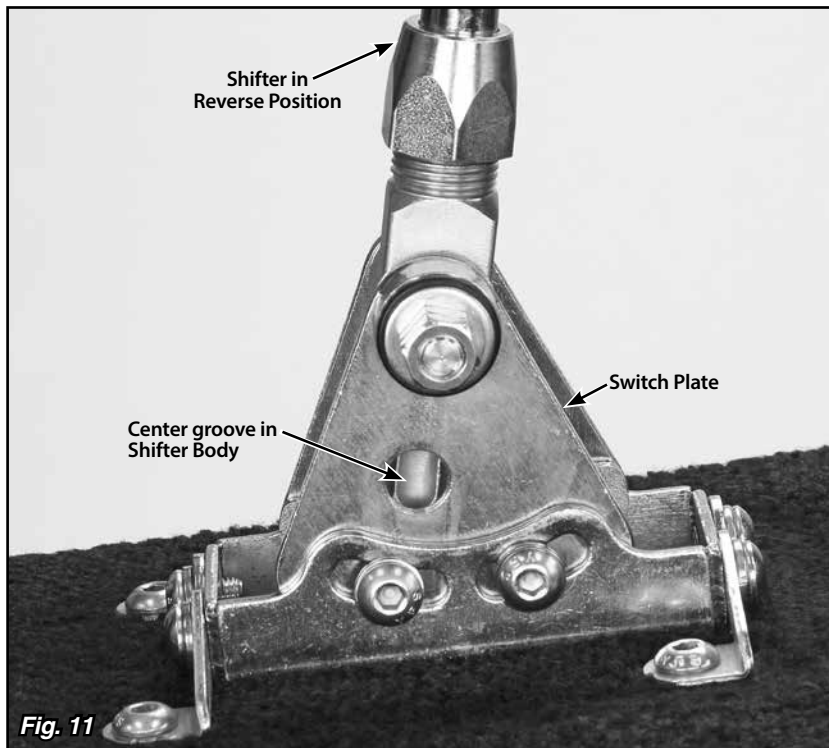
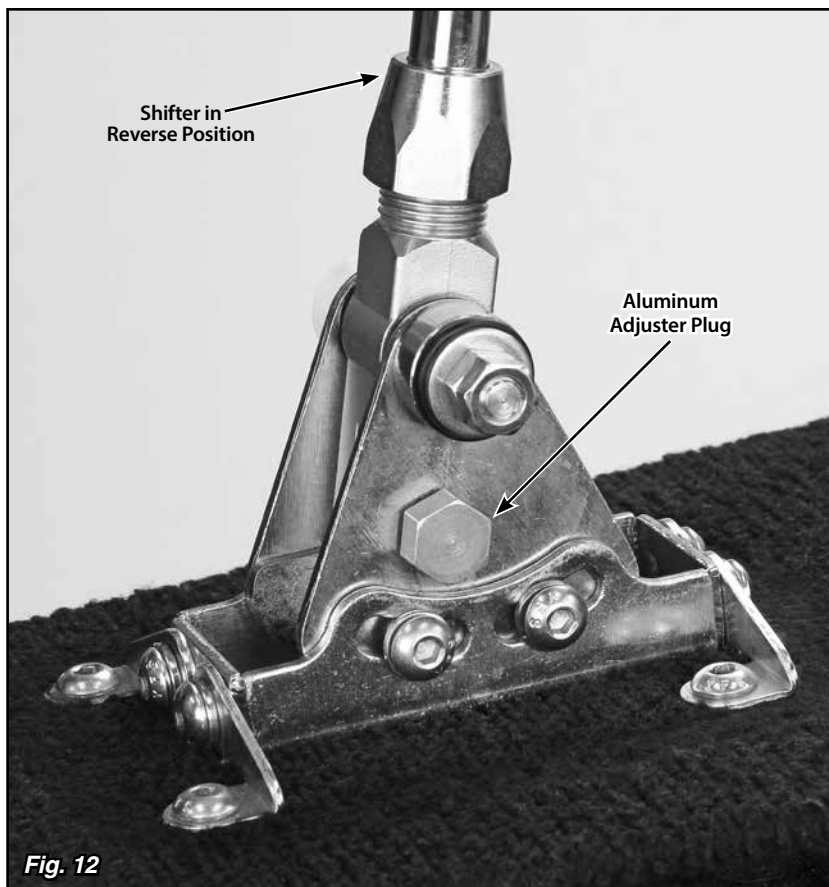

Fig. 11
Fig. 12
Step 18: Put the shifter into the Reverse position. Reposition the switch plate so that the hole in the switch plate lines up with the center groove in the shifter body. **Fig. 11** Screw the provided aluminum adjuster plug into the neutral safety switch opening. Wiggling the switch plate slightly forward and back while you are screwing the aluminum adjuster plug in will help get the shifter body centered on the adjuster plug. **Fig. 12**